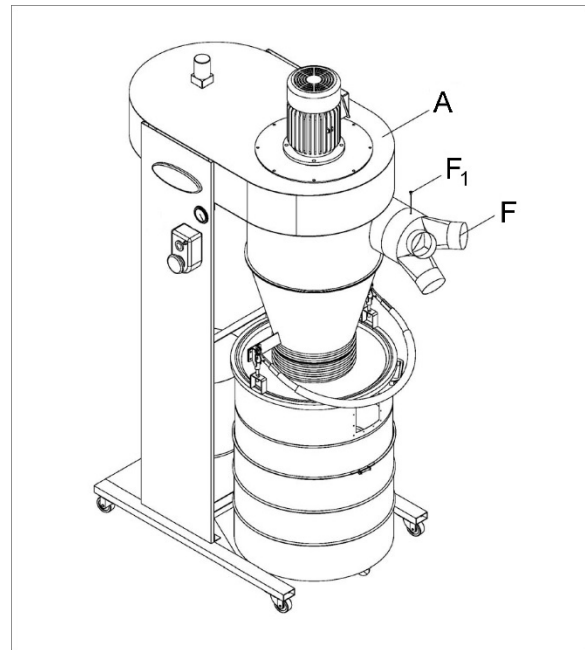

Figure 9
15. Push inlet adaptor (F, Figure 9) onto housing port and tighten with screw (F₁).